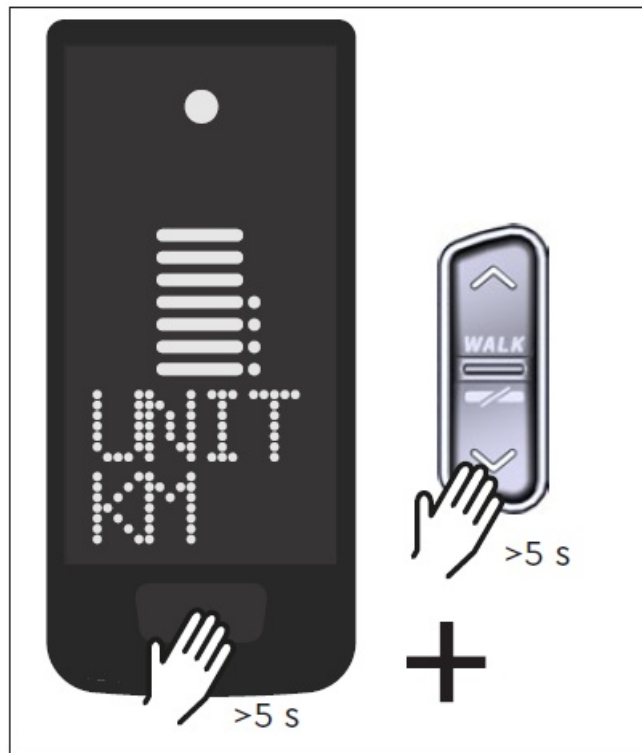

Fig. 4: Setup-Mode activate
- Switch off the drive unit by long pressing the button (see Fig. 4) on the Display.